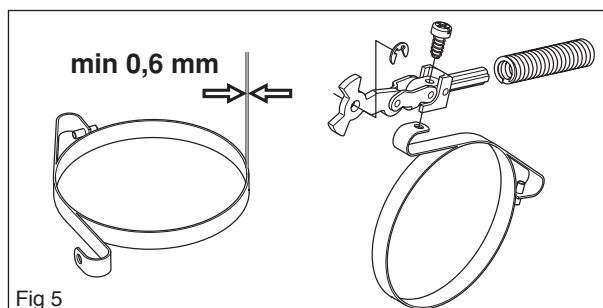
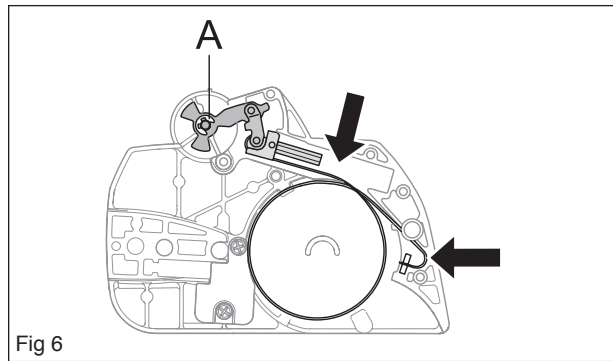

Fig 5
Fig 6
- Measure the thickness of the chain brake band. It must not be less than 0.6 mm at any point. (see figure 5)
Bolt the elbow joint to the brake band (see figure 5) and tighten to a torque of 1–2 Nm. Locate the elbow joint and connected brake band in their recesses in the clutch cover. Lubricate the recess for the spring with grease (see figure 6).
Secure the circlip (A) (see figure 6).